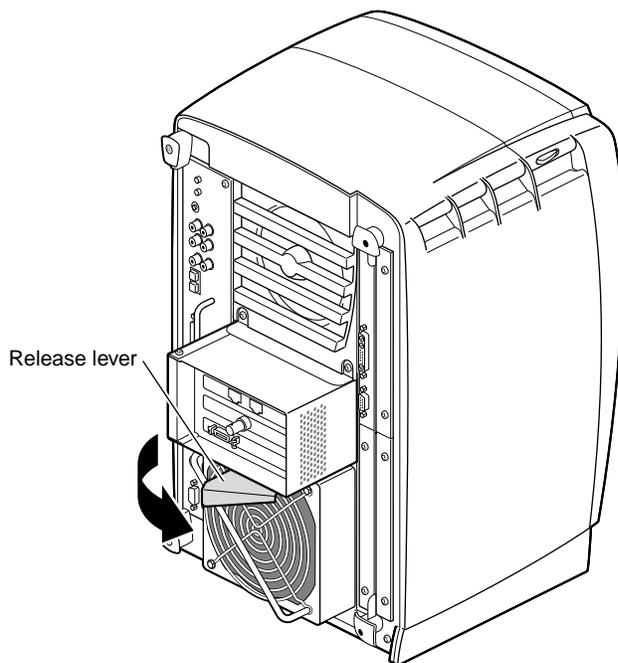

Figure 2-6 Opening the Release Lever
2. Pull the release lever toward you and to the right. You will feel resistance as you open the lever. Continue to pull until the lever is at the angle shown in Figure 2-6. The lever releases the locking mechanism that attaches the PCI module to the workstation.